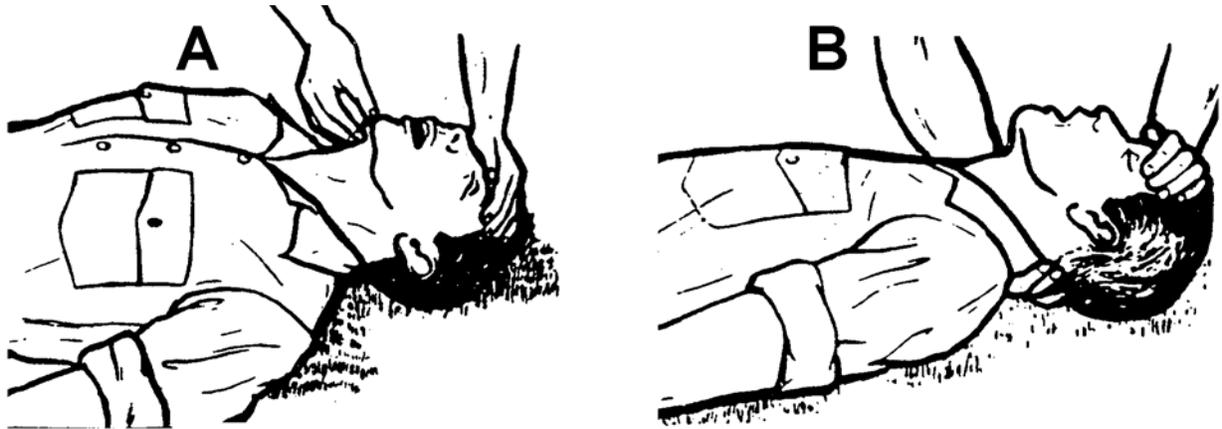

Figure 2-3. Hyperextending the neck. A Head-tilt, chin-lift. B Head-tilt, neck-lift.
(2) Use a scissor motion to pry the teeth apart and hold the mouth open. If the patient's teeth are clenched, use the modified jaw thrust method to open the mouth. In cases where neck or spinal injuries are present or suspected, use the jaw thrust method of opening the airway to prevent further injury.
(3) Hyperextend the patient's neck (figure 2-3) unless there is a suspected spinal injury.